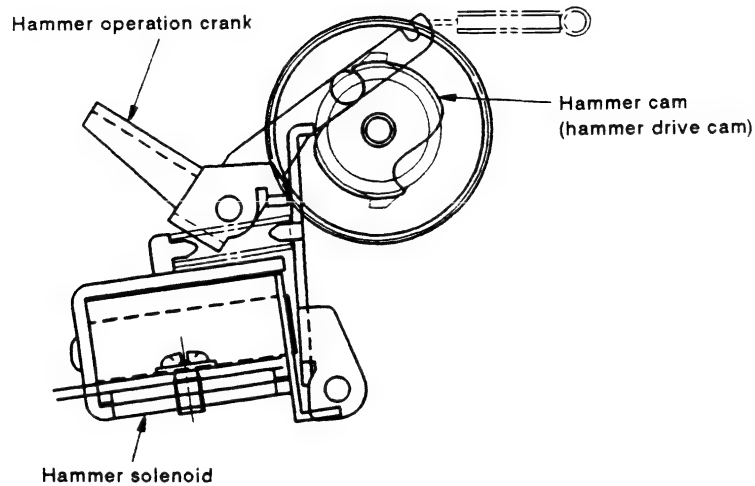
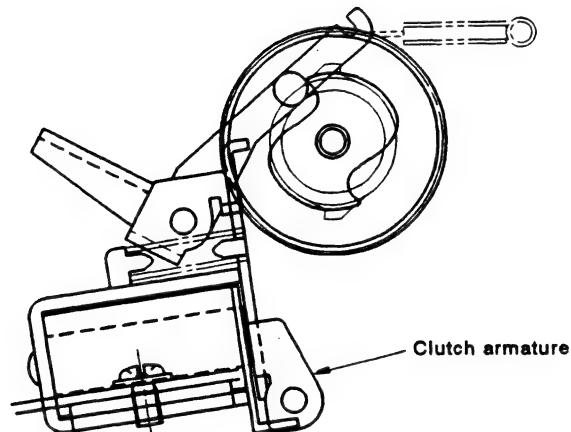

Fig. 1.3 Strong Impact Hammering
Fig. 1.4 Weak Impact Hammering
One of two hammer impact intensities, weak or strong, is selected according to the size of the character. When the character has a large surface area, the printing operation described before, strikes the spoke with a strong impact. (See Fig. 1.3) When the character has a small surface area, the same operation in (1) takes place. The extended current flow causes the hammer solenoid to push the clutch armature back, which stops the hammer operation crank from swinging all the way back to its original position. This reduces its length of travel which reduces the impact strength to weak. See Fig. 1.4.